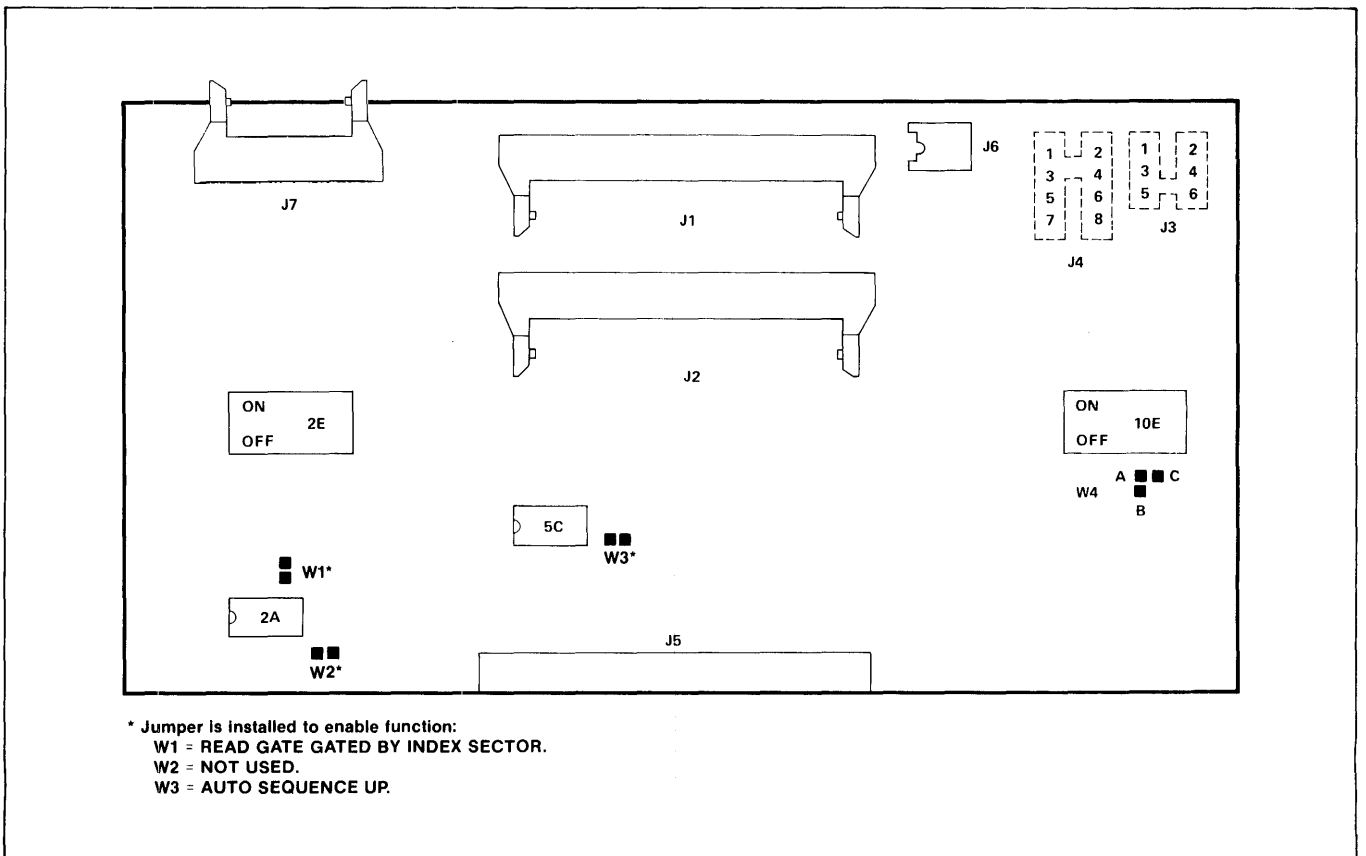

Figure 5-3. DIP Switch and Jumper Locations for PCB Assembly 200218/200263
4. USO = User Selected Option (See Figure 5-3).